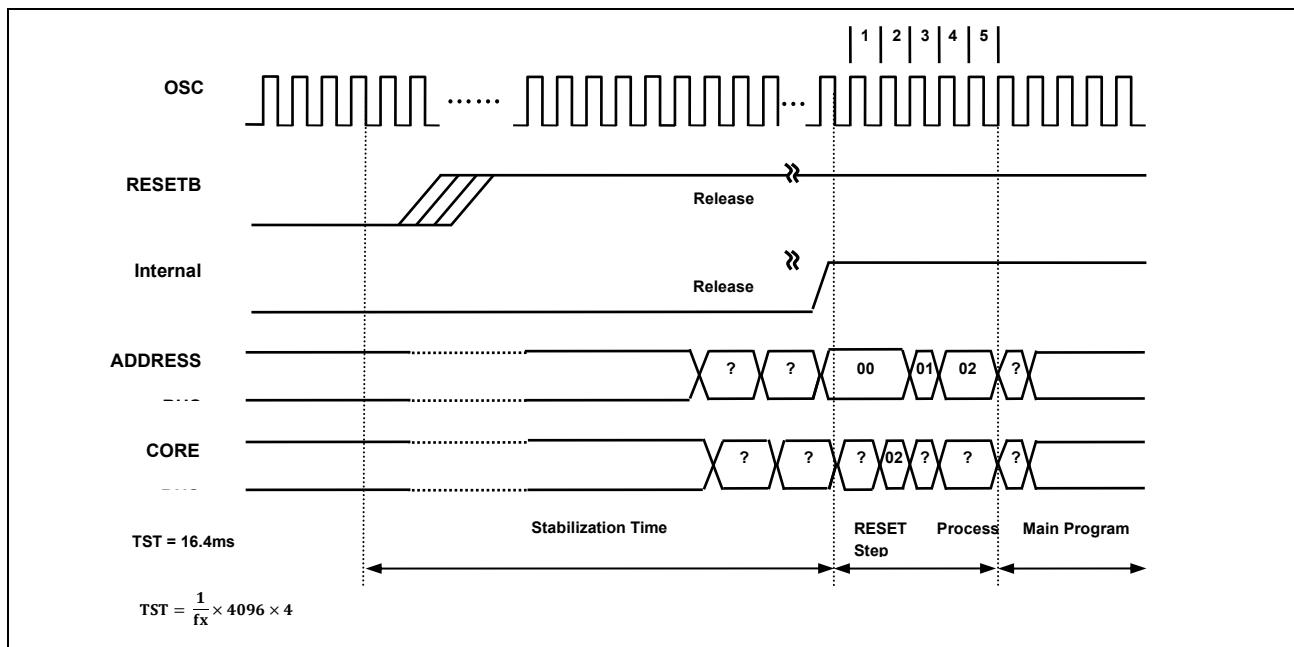

Figure 130. Timing Diagram after RESET
1. As shown Figure 130, the stable generating time is not included in the start-up time.